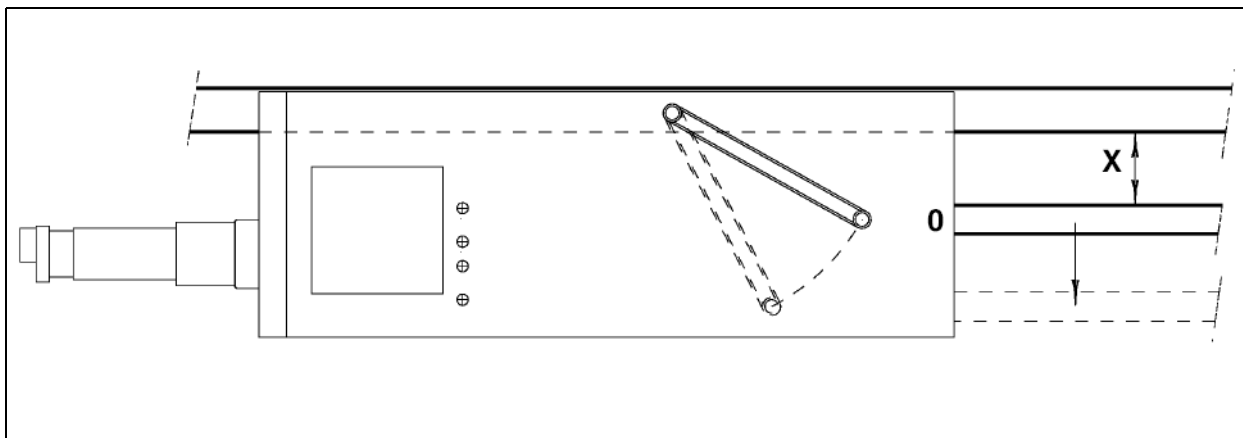

Fig. 135 - 0-position
1. Check this dimension between the rail and the inner side of the frame, as close to the actuator as possible. See fig. 135 and table 5.